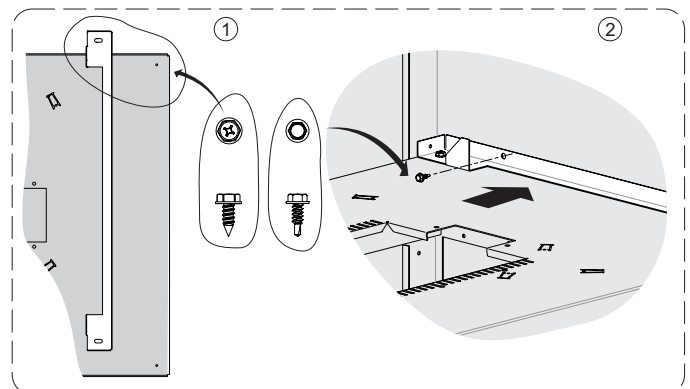

Figure 3
4. Screw the brick bracket to the false floor (but do not tighten) with the screws shown on the left side of **Figure 3** (Vent / Pilot side panel only).
5. Use the self-drilling screws shown on the right side of **Figure 3** to attach the brick bracket to the firebox wall.